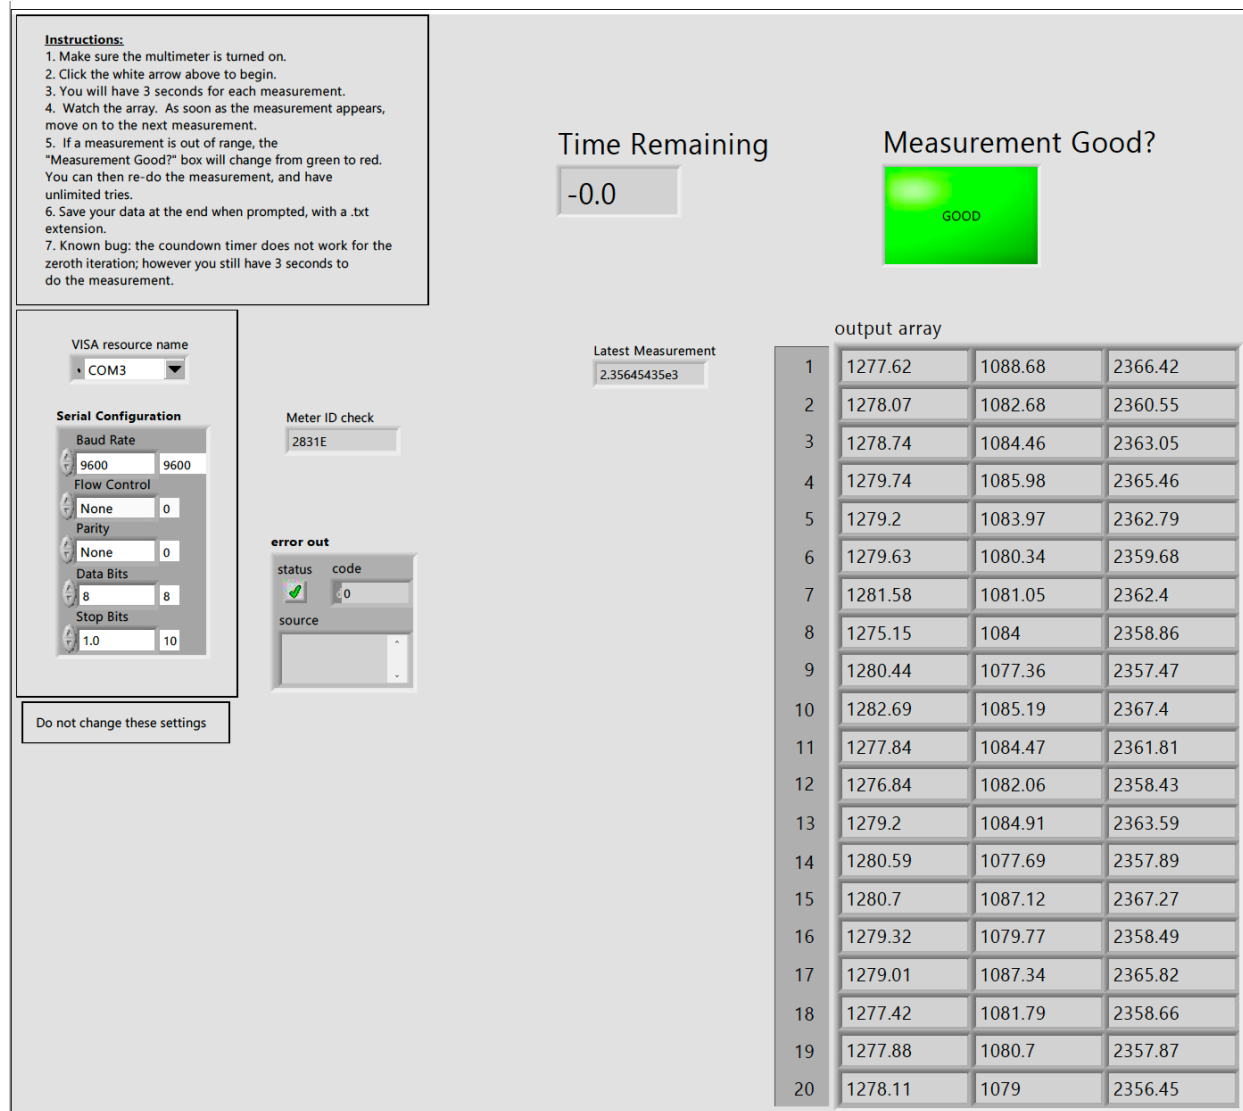

Fig. 3: A screen capture of the LabView program Error_Propagation.
6. Insert the other end of the 2-pin cable into the first two pins of the 4-pin connector to measure R_1 . Start with the resistor pair labelled R_1 and R_2 on the upper left-hand corner. If the measured resistance is $\sim 1.3 \text{ k}\Omega$, the measured value will be displayed and the button under “Measurement Good?” will turn from red to green (Fig. 3), indicating that you are ready to measure R_2 .